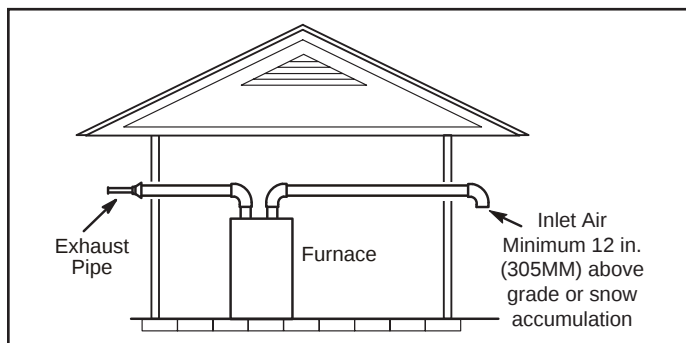
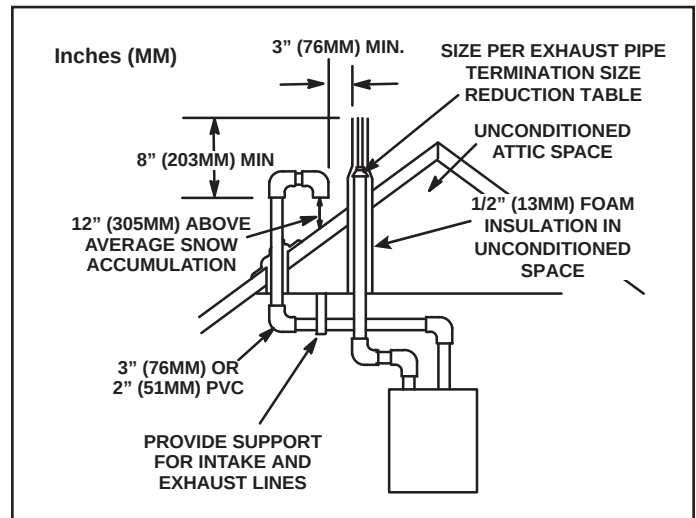

Figure 24. Exiting Exhaust and Intake Vent (no common pressure zone)
Figure 23. Direct Vent Roof Termination
Intake and exhaust pipes may be routed either horizontally through an outside wall or vertically through the roof. In attic or closet installations, vertical termination through the roof is preferred. Figure 23 through Figure 34 show typical terminations.
1. Intake and exhaust terminations are not required to be in the same pressure zone. You may exit the intake on one side of the structure and the exhaust on another side (Figure 23). You may exit the exhaust out the roof and the intake out the side of the structure (Figure 24).